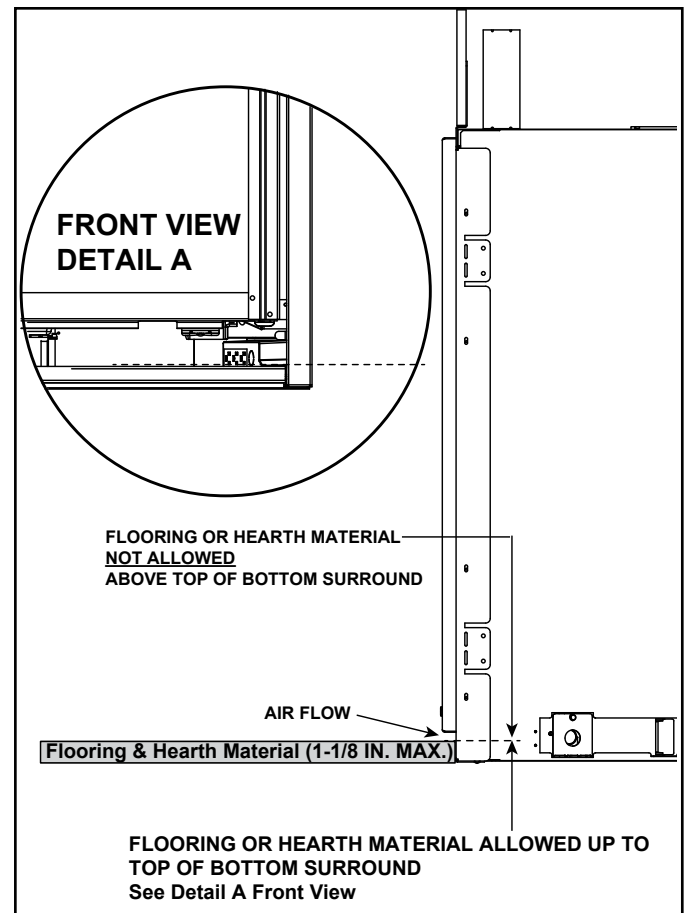

Figure 3.16 Flooring & Hearth Material Allowed
- Flooring and hearth material is allowed up to, but not above, the top of the bottom surround in order to allow for proper air flow from appliance. See Figure 3.16.